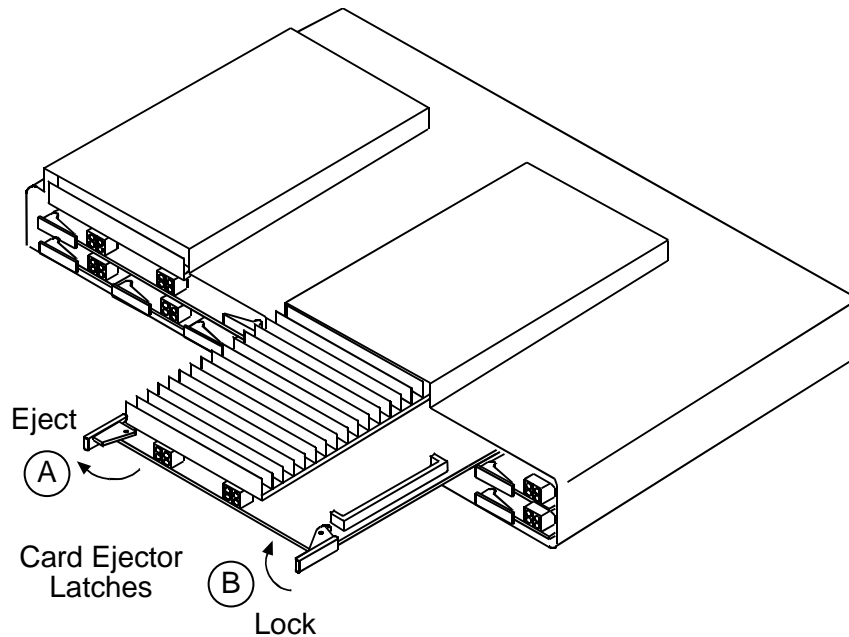

Figure 16-4. Installing and Removing Controller Card
**NOTE:** The example in Figure 16-4 shows installation and removal of Controller B.
3. Press standby Controller card ejector latches toward outside of card until card connector releases from backplane connector (see A in Figure 16-4).
6. Straighten card ejector latches (see A in Figure 16-4), position new Controller card in guide rails, and carefully slide into old Controller card slot.
7. Press card ejector latches in toward center of card (see B in Figure 16-4) until card connector mates with backplane connector.